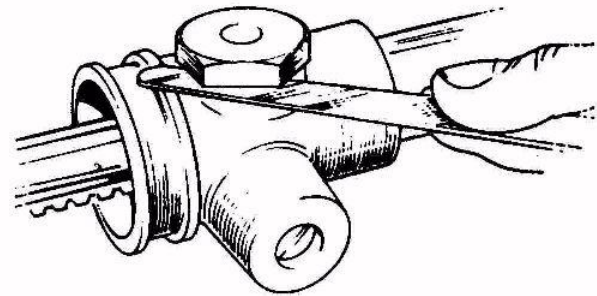

Fig. 12 - Measuring Cap Nut Head/Pinion Housing Clearance.
- a/ Fit the plunger and cap nut to the pinion housing. Tighten the nut to eliminate all end float and, using feeler gauges, measure the clearance between the nut and housing as shown on Fig. 12